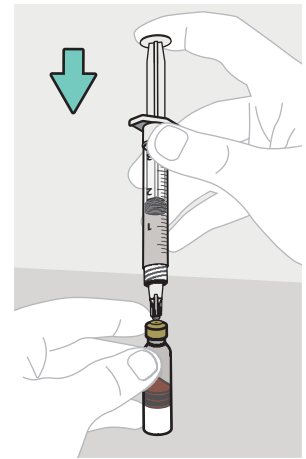

Figure 56
b. Reinsert the syringe into the cartridge septum and push down slowly on the syringe plunger rod to transfer additional insulin from the syringe into the cartridge such that the cartridge is filled to your satisfaction (see Figure 56).